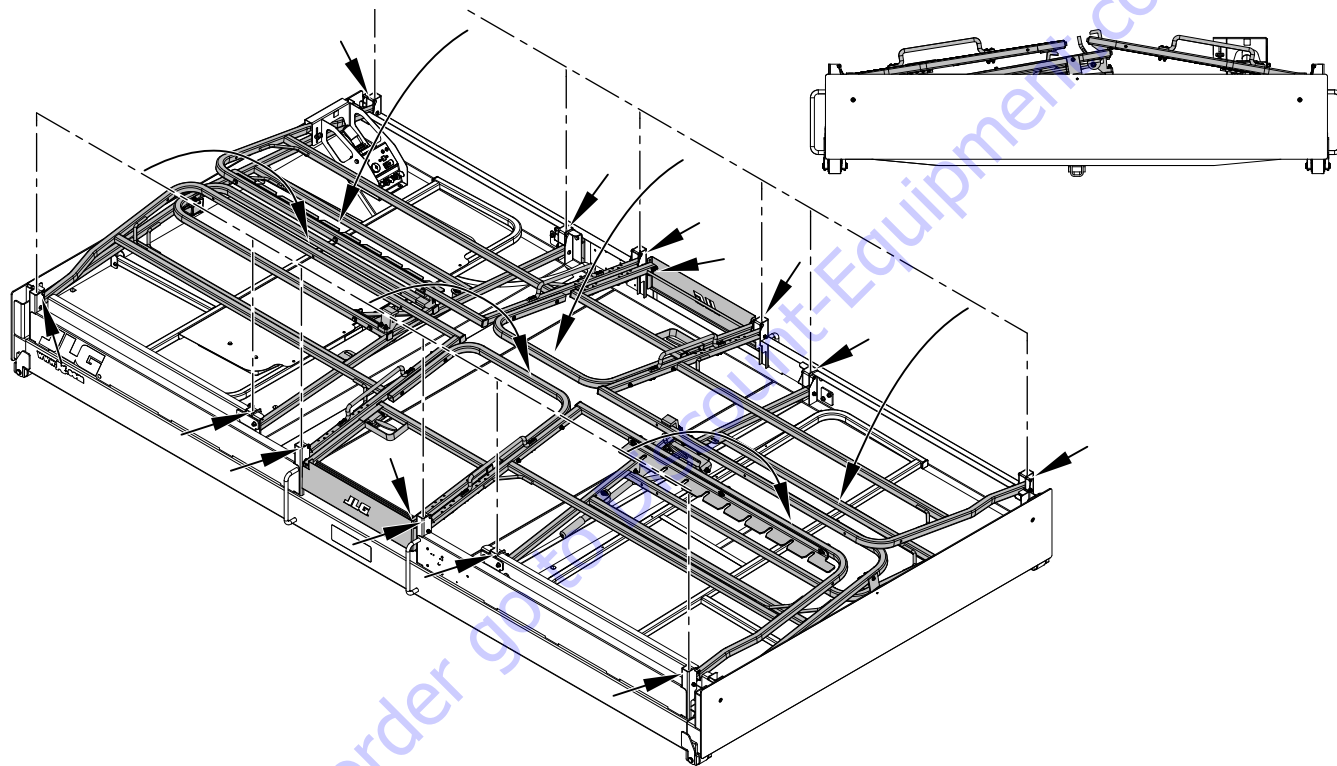

Figure 3-5. Platform Side Rails - Fold Down Sequence and Rail Pin Locations
3. Pull platform extension side rail pins (one per rail set, see short arrows in Figure 3-5.), then fold down extension side rails.
4. Pull main platform side rail pins (four per rail set, see short arrows in Figure 3-5.), then fold down main platform side rails.